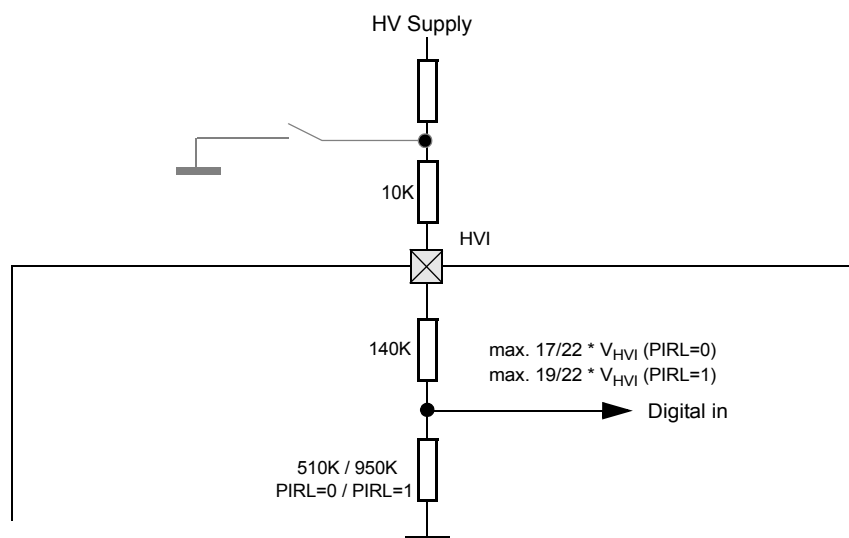

Figure 2-37. Digital Input Read with Pulldown Enabled
2.5.4.2 External pull-up device (Figure 2-37):